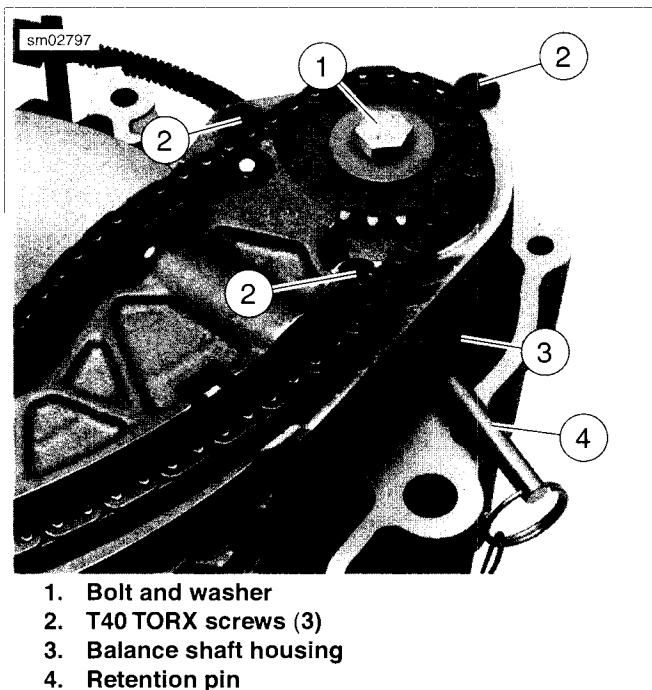

Figure 3-59. Balance Shaft Support (Front Balance Assembly Shown)
1. See Figure 3-59. Rotate flywheel assembly to align holes in balance shafts with holes in balance shaft housing (3). Insert BALANCE SHAFT RETENTION PINS (Part No. HD-44062) inside front and rear shaft supports to lock balance shafts in place. Locking the balancers in this position times the balancers to the engine.